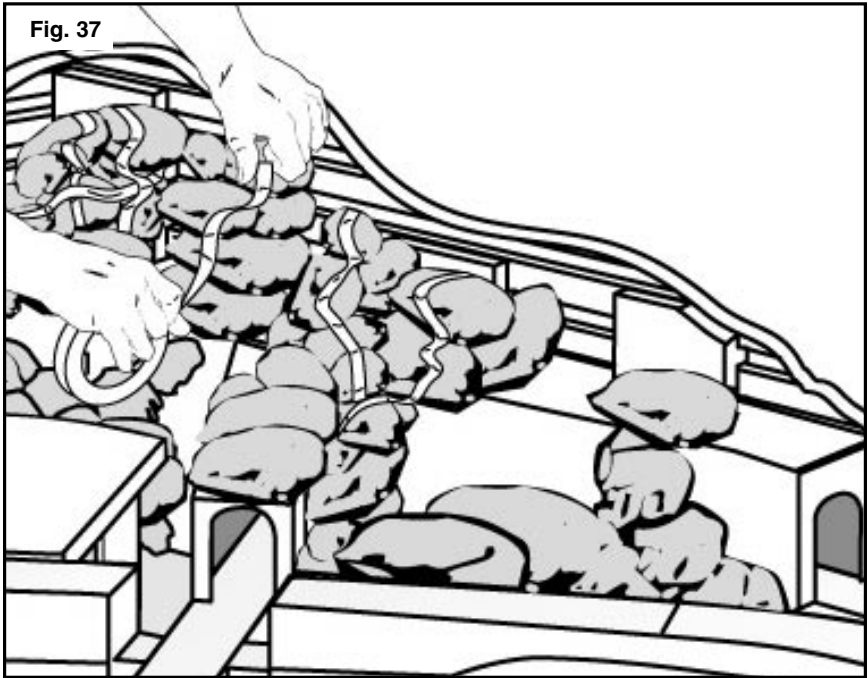

Fig. 37
- B. The wads should be stacked evenly with the top of the Profile Boards to form realistic contours. Fill in the spaces between Risers and around the perimeter of the Foam Sheets (Fig. 37).